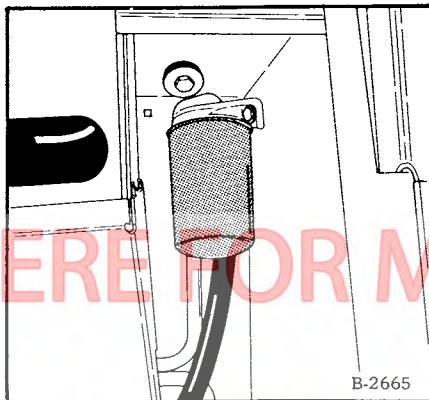

Fig. 42 Hydraulic Oil Filter
1. Remove the filter (Fig. 42). Use a pan to catch any fluid you may spill.